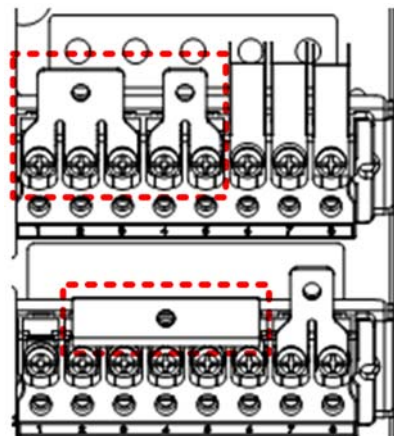

Figure 8-18 3-in 1-out, split bypass configuration (2)
b) Install the bypass input copper shorting bars to terminals (bA, bB, bC), and use the output shorting copper bars to connect the output terminals (oA, oB, oC) together. See Figure 8-18.